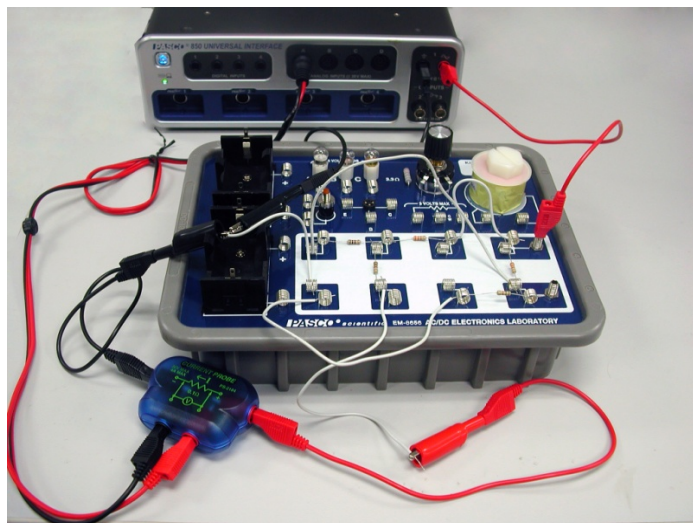

Figure 8: Hooking Up the Ammeter
- Attach the ammeter by clipping the red end of the ammeter to the white wire attached to the bottom of the $100\ \Omega$ resistor (R_3) as shown in Figure 8. The black side of the ammeter attaches to the white wire coming from the lower left spring. The black wire from Output 1 on the 850 also attaches to this point (ground).